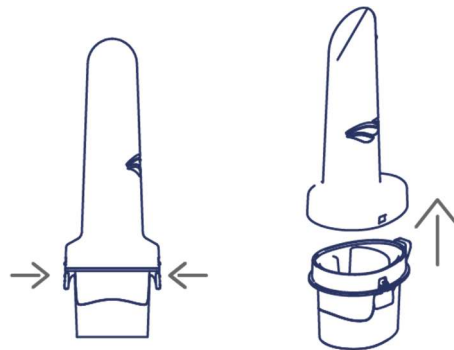

Figure 8 – Separation of Mist Stack from Mist Cup
2. Squeeze the sides of the Mist Cup to release it from the Mist Stack. Set the Mist Stack aside in a clean, dry location (Figure 8).